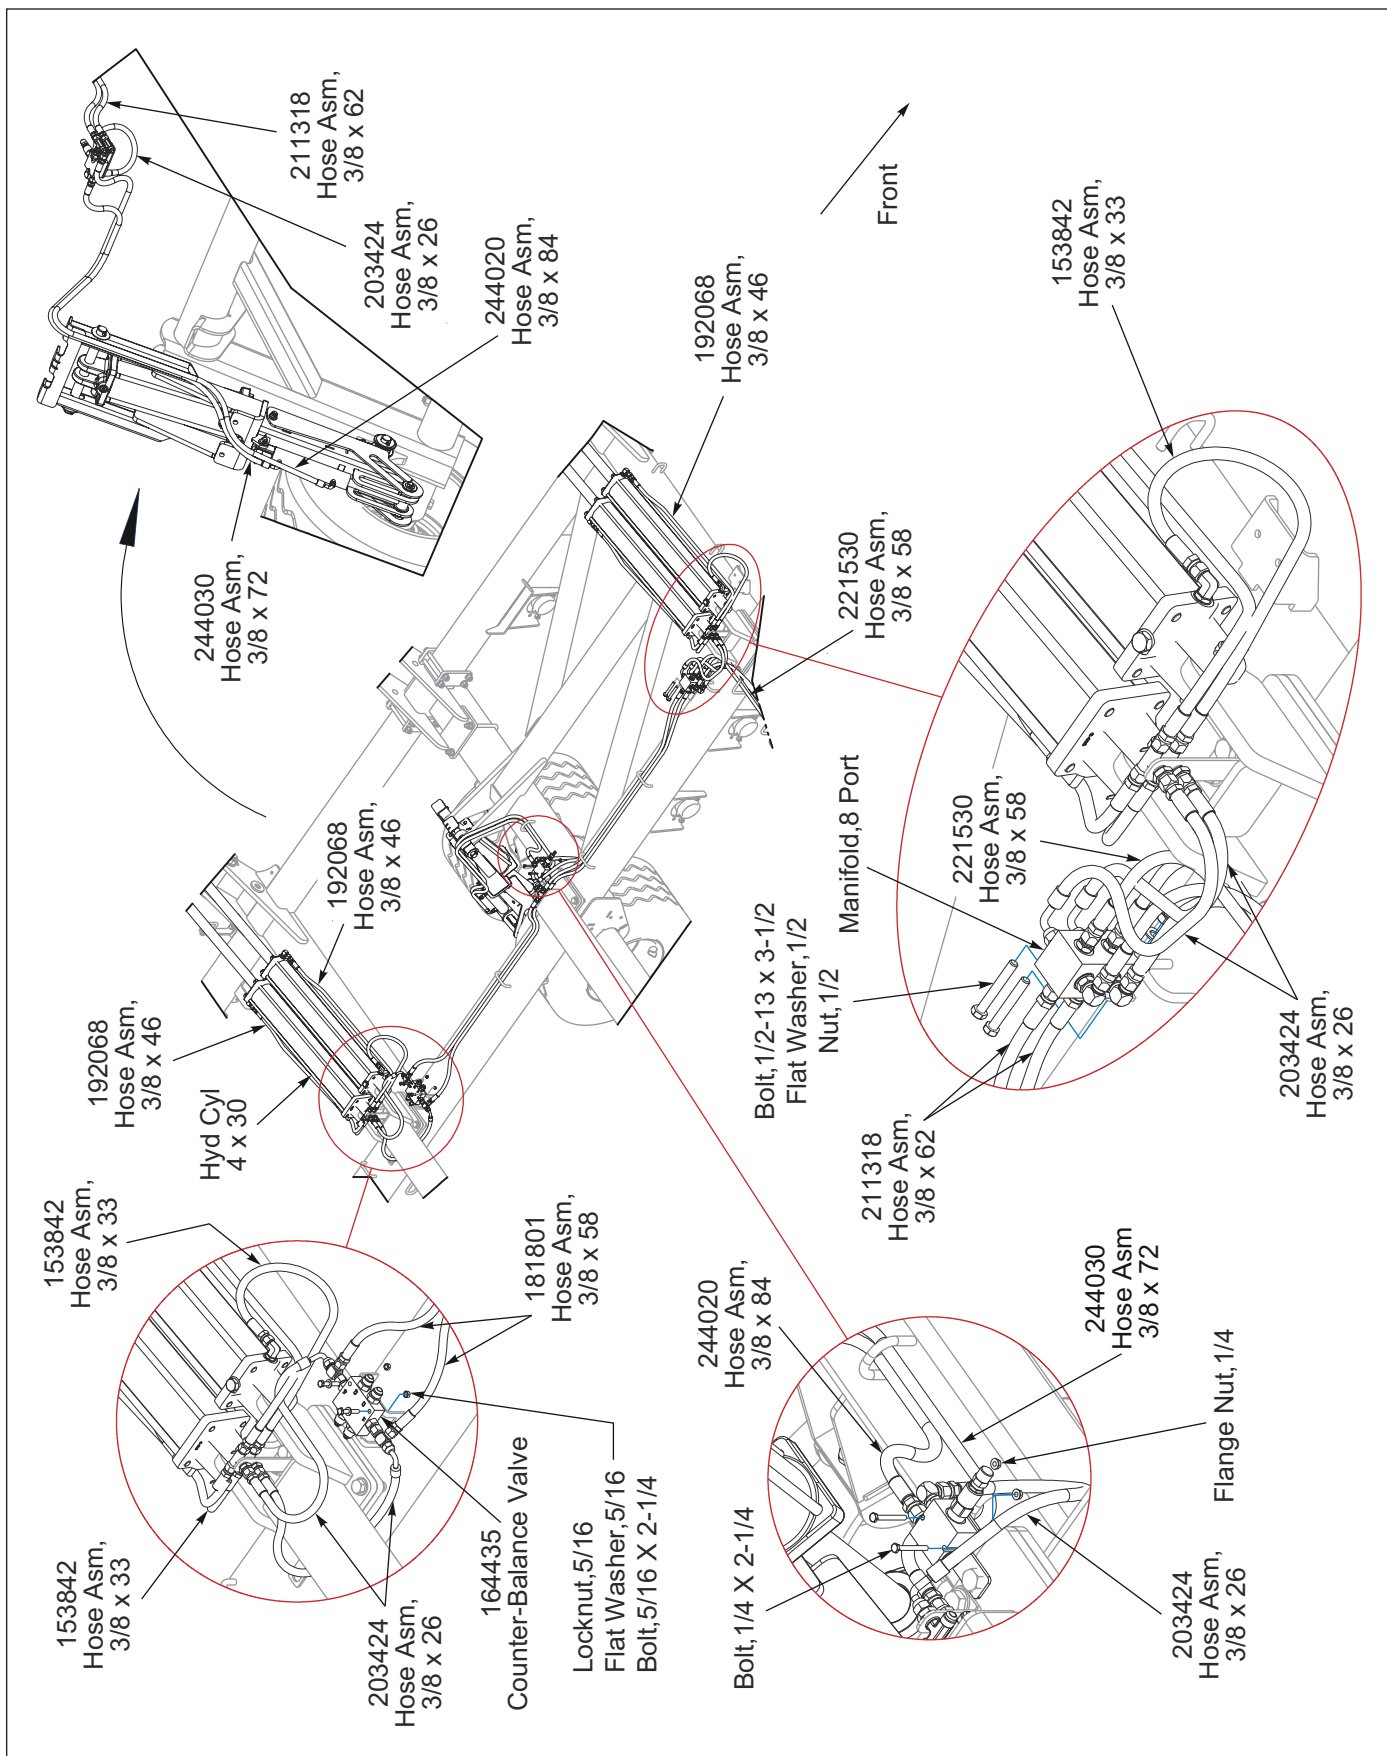

Figure 2-24: Fold Hydraulic Layout - Left Hand
2. Fold Circuit - Yellow - See Figures 2-24, and 2-28. The Fold Circuit with wings folded, requires approximately 8.7 gallons of hydraulic oil and with wings unfolded, requires 10.6 gallons of hydraulic oil.
2. Install Elbow Restrictors into Fold Cylinders. *NOTE: Restrictor size is different on LH Rod End Cylinders. See Figures 2-24 and 2-25.*
3. Install Bulkhead Tees to Mounting Plates at each Cross-Member Location near rear Fold Cylinders. **See Figures 2-24 and 2-25.**